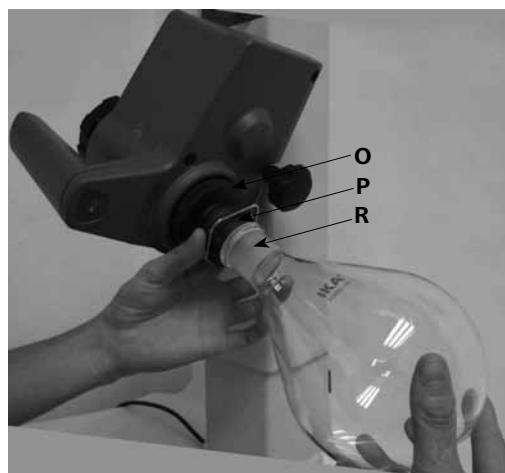

Fig.15
- Place the evaporation flask (**R**) on the Vapour tube. (Fig.15)